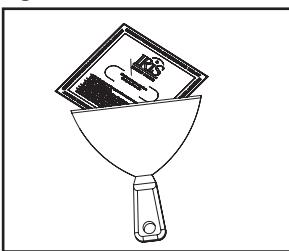

Figure 10.
1. Allow the first coat to dry overnight. Apply a multi-purpose compound, following the manufacturer's instructions and warnings with an 8" knife feathering at least 2" beyond the first coat (Figure 10.). Additives (such as Trim-Tex Mud-Max) can be used to improve strength and durability of the drywall compound.